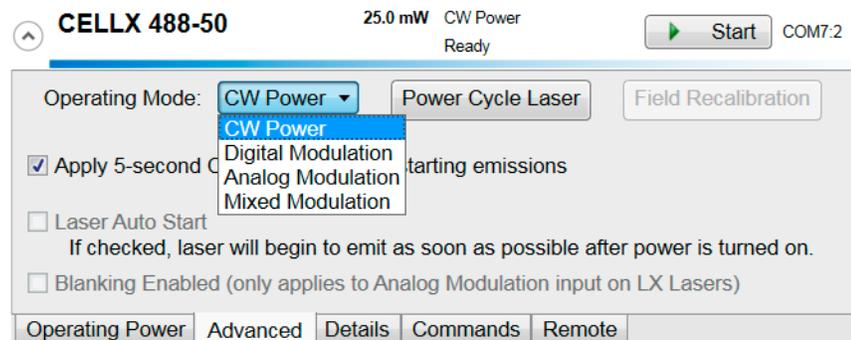

Figure 5-4. Coherent Connection–Advanced Tab, Operating Mode
6. Click the drop-down menu for 'Operating Mode' and then select **CW Power**. Refer to Figure 5-4.